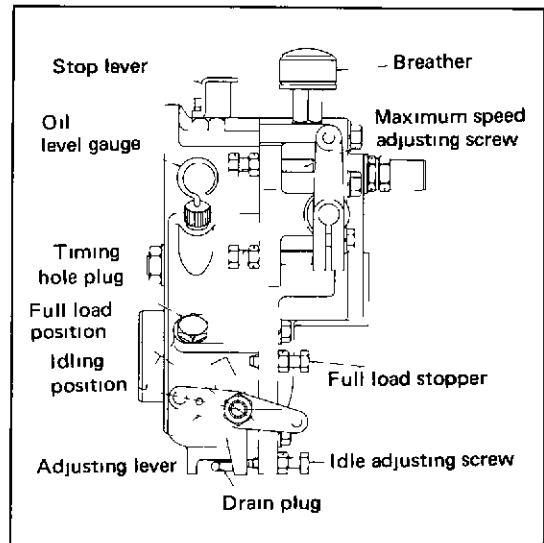

Fig. 3 144 Governor Outside View
- b Do not open the seals on the full load stopper and maximum speed adjusting screw and carelessly alter the setting positions. (Refer to Fig. 3 144).